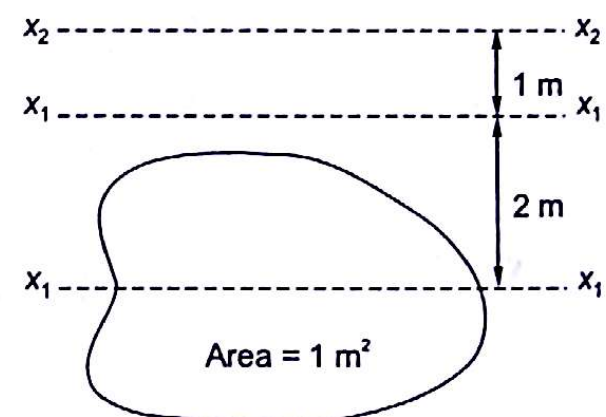

Fig. 8.23
8.9 xx , x_1x_1 , and x_2x_2 are parallel axes of which xx is the centroidal axis. If moment of inertia of the figure about x_1x_1 axis is 10 m^4 , what is the moment of inertia of the figure 8.23 about x_2x_2 axis